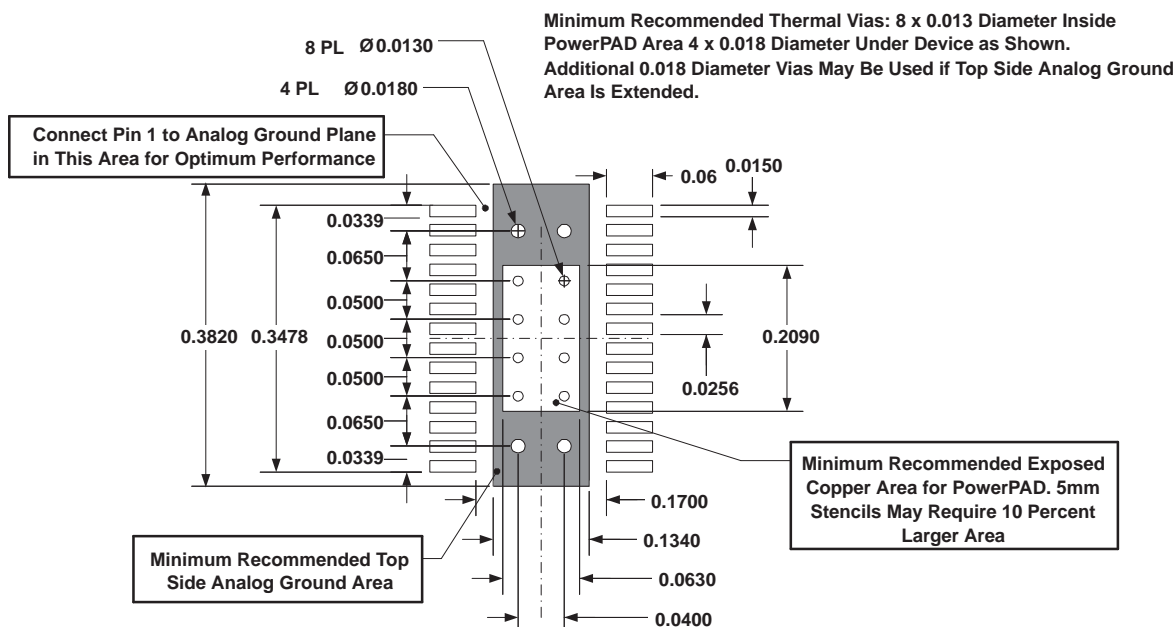

Figure 11. Recommended Land Pattern for 28-Pin PWP PowerPAD
- (1) For more information on the PWP package, see TI technical brief, literature number SLMA002.
- (2) Test board conditions:
- e. 12 thermal vias (see the Figure 11 in the *Application Section* of this data sheet.
- (3) Maximum power dissipation may be limited by over current protection.
- (4) Estimated performance